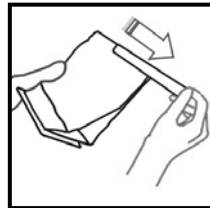

Fig. 8
- Hold the dust bag over a dustbin. Remove the clip by sliding it off the dust bag sideways. (Fig. 8)